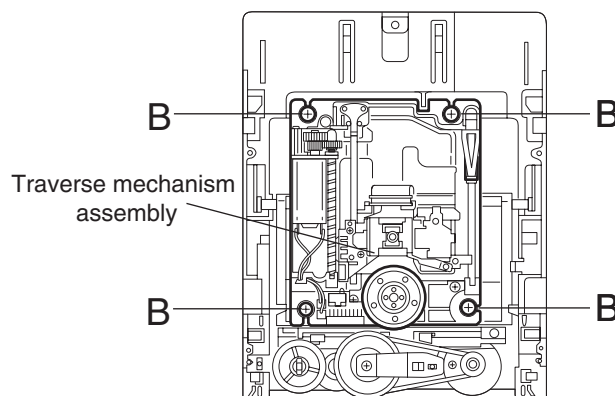

Fig.5
■ Removing the traverse mechanism assembly (See Fig.5,6)